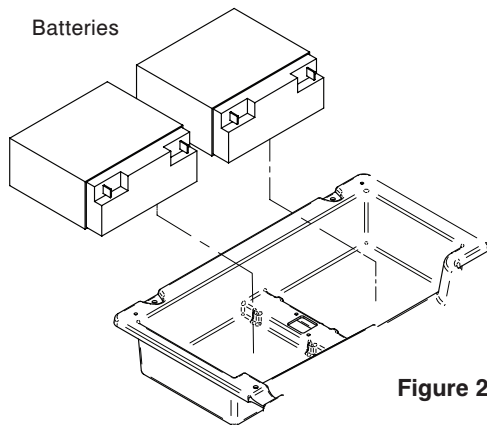

Figure 2
6. Unplug the bed from the wall outlet and turn battery switch "OFF" (0). The bed should now have no power.
8. Lift up on both batteries and stand them upright (reference Figure 2 above).
5. Using a Phillips screwdriver, remove the two screws securing the angle sensor to the foot frame (refer to Figure 2 above). **Note: Use caution as the cover is large and heavy.**